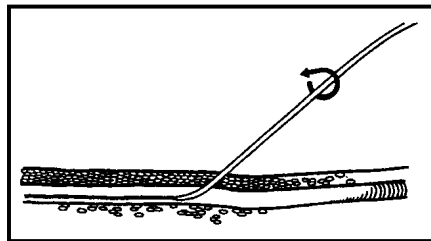

Figure 3-24
- (i) Grasp the dilator with one hand close to the tip near the skin, and advance the dilator through the skin into the vein using a firm, downward, twisting motion. (See Figure 3-24.)